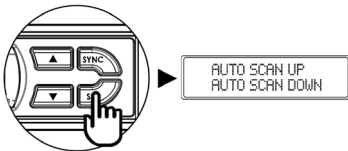

Figure 10
1. Press and release SET button until the AUTO SCAN page appears (Fig 10).